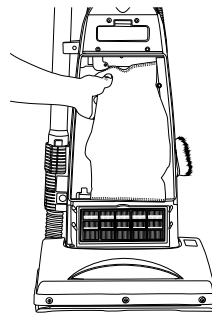

Fig. 3
1. Unplug the vacuum cleaner. Remove the bag compartment cover and remove the used bag from the bag holder (Fig. 3).